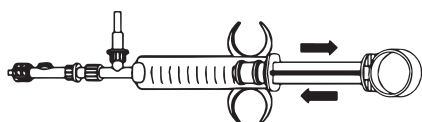

Figure 3. Filling and Debubbling with Control Syringe
10. Prime system by aspirating and discarding solution with syringe (see Figure 3) until entire system is free of air.